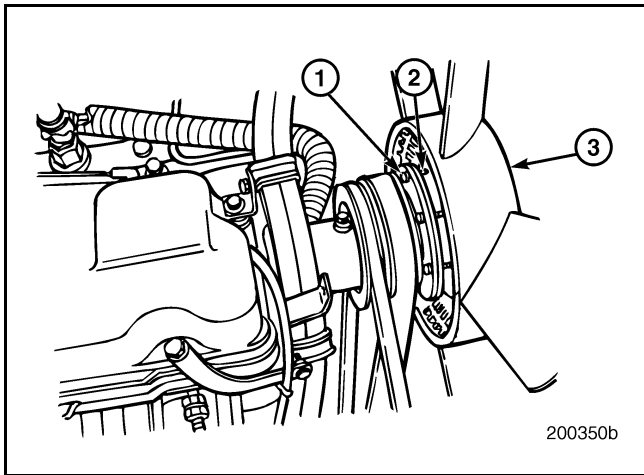

Figure 120 — Fan Assembly Removal
- Loosen the eight fan assembly mounting nuts and capscrews. Refer to Figure 120.